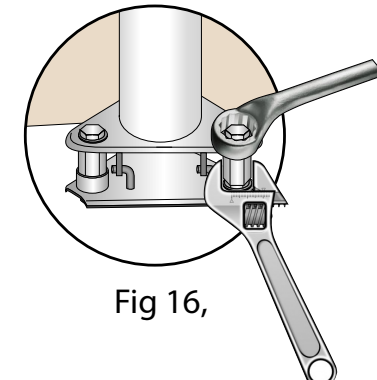

Fig 16,
16. Tighten the set screws whilst preventing the long nut from rotating. (See Fig 16)